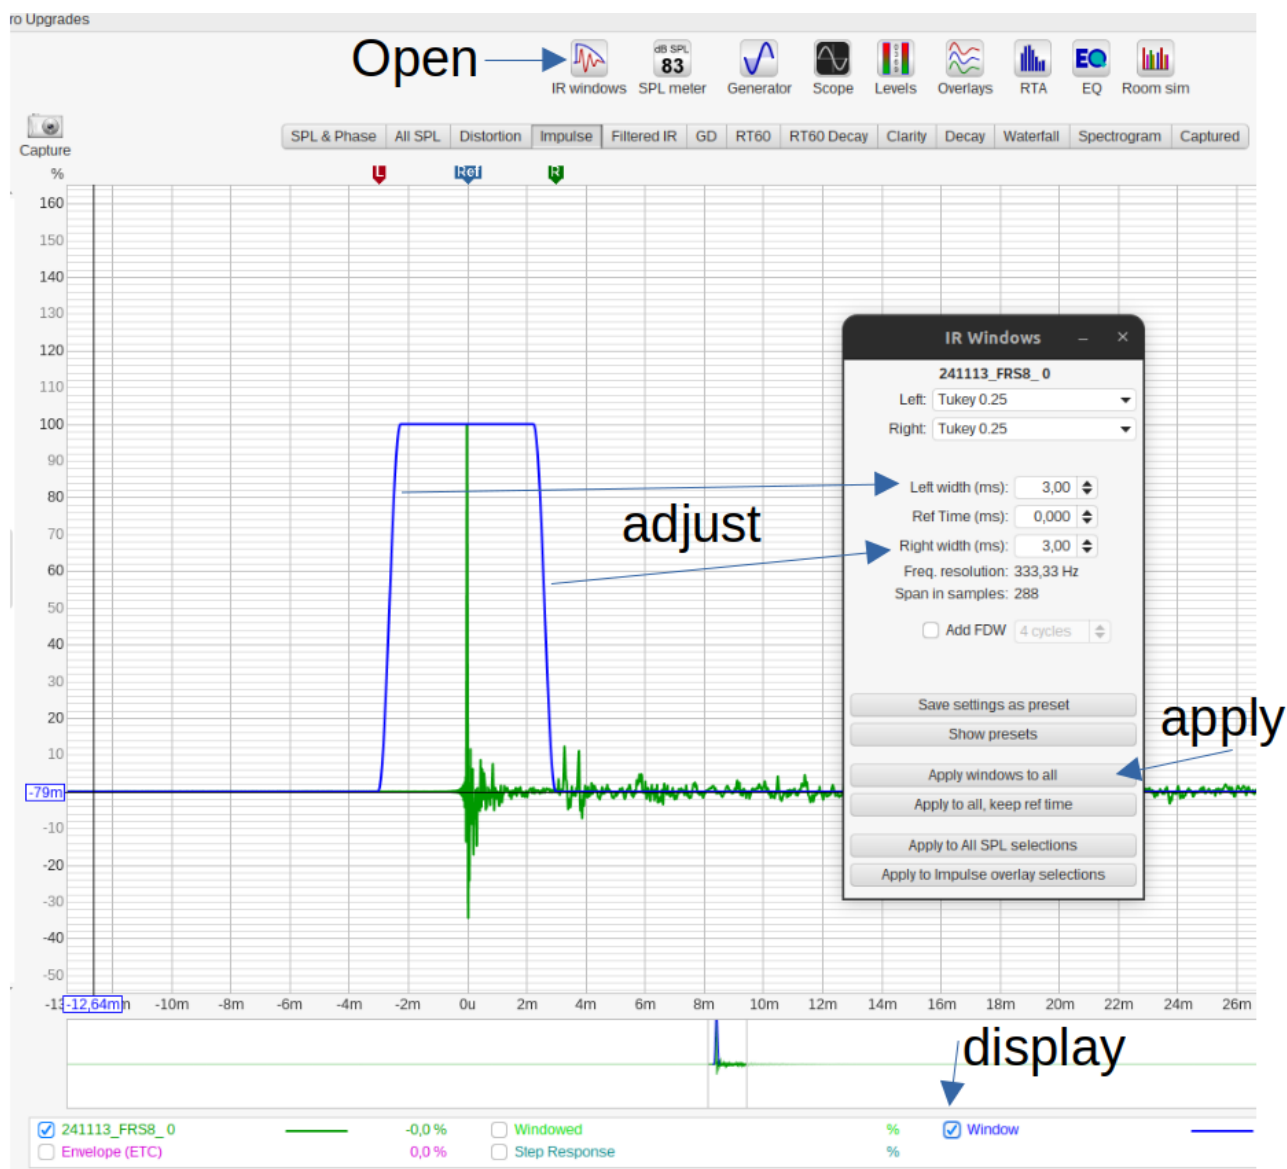

Figure 2: IR window setting
- After measurements, click on “IR windows” then fill the Left and Right values with the desired value. **See figure 2.**